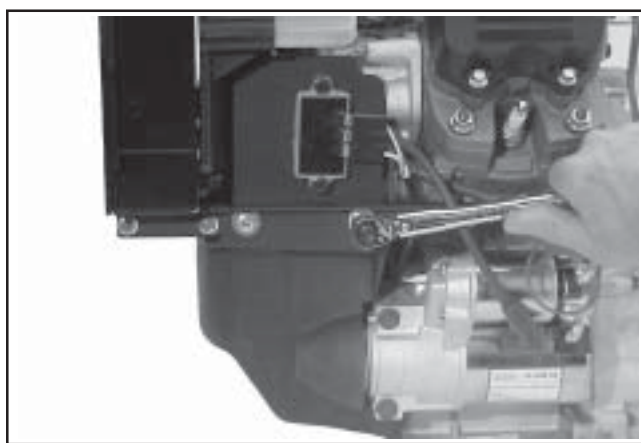

**Figure 11-119. Fuel Line and Pump "Pulse" Fuel Pump.**
9. If a "pulse" style fuel pump is used, install it to the tapped holes in the #2 side, upper radiator support bracket and torque the two screws to **6.8-7.3 N·m (60-65 in. lb.)**. Connect the outlet line between the pump and carburetor and the vacuum line to the crankcase fitting. Secure with the clamps. See Figure 11-119.